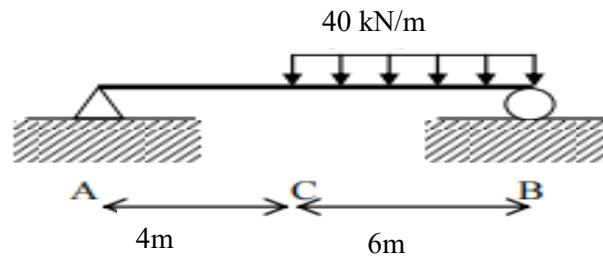

Figure A1 (b) (ii) /Rajah A1 (b)(ii)
- ii) A simply supported beam is loaded as shown in **Figure A1 (b) (ii)**. Calculate the reaction force of beam using static equilibrium principle.